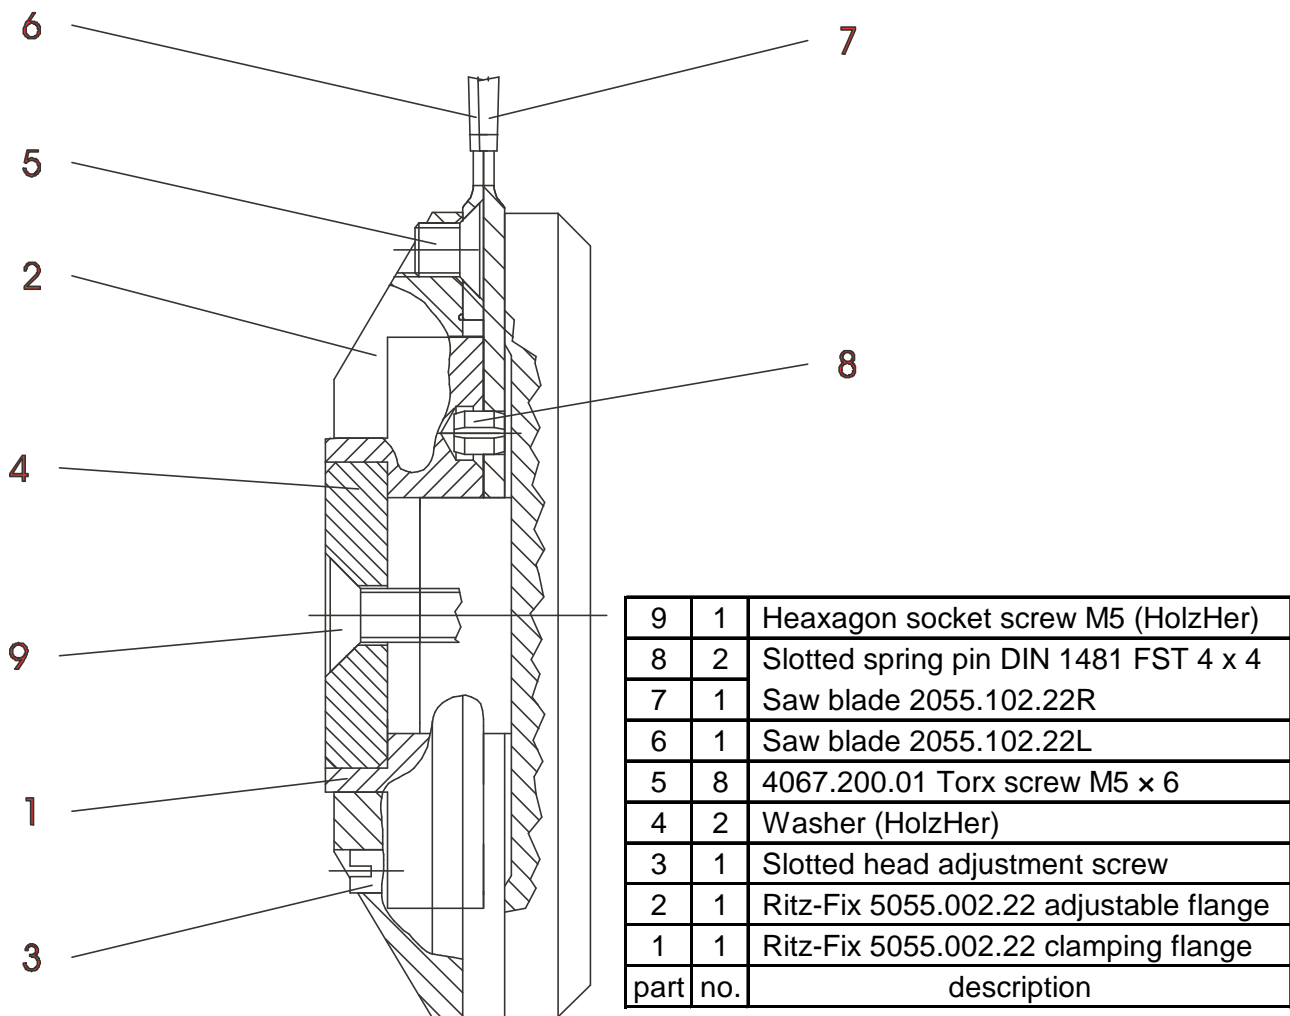

Fig. 1 Crosssection of the mounted toolset,
The construction of the grooving set, specifically intended for the pre-scoring of panels in sizing saws, is shown in fig. 1. The outer grooving-saw blade 2055.102.22L (6) is mounted on an adjustable flange (2), attached to it by 6 Torx - screws (5). The inner grooving-saw blade 2055.102.22R (7) is aligned on the toolset by 2 spring pins (8) and is clamped between a clamping flange (1) and the machines' drive plate. The adjustable flange (2) contains a mechanism enabling the groove width to be set anywhere within the range 2.8mm to 3.6mm by means of the adjuster screw (3). Note! The socket screw is for lubrication purposes only - please do not adjust!!
**The adjuster screw (3) alters the groove width by
The inner grooving-saw blade 2055.102.22R (7) is first assembled with the Ritz-Fix-body, the two spring pins (8) facing the tool body. The complete tool set, pre-assembled with the outer scoring saw blade 2055.102.22L (6) is then pushed onto the drive spigot \varnothing 22 mm. Finally the washer (4) and the hexagon socket head M5 screw (9) secure the assembly onto the spindle (fig. 1). The M5 screw (9) should be tightened in accordance with the manufacturers operating instructions. This screw is tightening the Ritz-Fix and the saw blade 2055.102.22R (7).
Attention! The grooving-saw blade 2055.102.22L (6) can only be mounted in one orientation!! To avoid personal injury, please protect the tungsten carbide saw teeth with a cloth during mounting and de-mounting of this blade. To mount, locate the blade over the projecting part of the clamping flange (1), against the adjustable flange (2) - aligning the blade cut-outs with the larger diameter screw-heads on the adjustable flange. Attach the blade to the adjustable flange by means of the 6 enclosed Torx screws (5) (see Fig. 1), cross-wise tightened. **For operational reasons, this scoring tool must only be fitted with GUHDO blades. This is a strict condition of product guarantees and liability.**